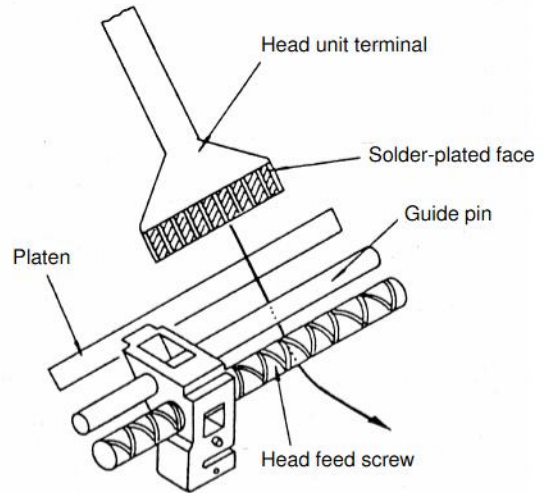

Figure 8-15 Inserting the Head Unit Terminal
- (1) Move the head carrier to a position that permits easy replacement (see Figure 8-15).
- (2) Insert the head unit terminal between the platen and the guide pin and head feeding screw with the soldered surface of the head screw upwards (see Figure 8-15). Holding the solder-plated face upward, insert the head unit terminal so that it passes in front of the platen and under the guide pin and the head feed screw.